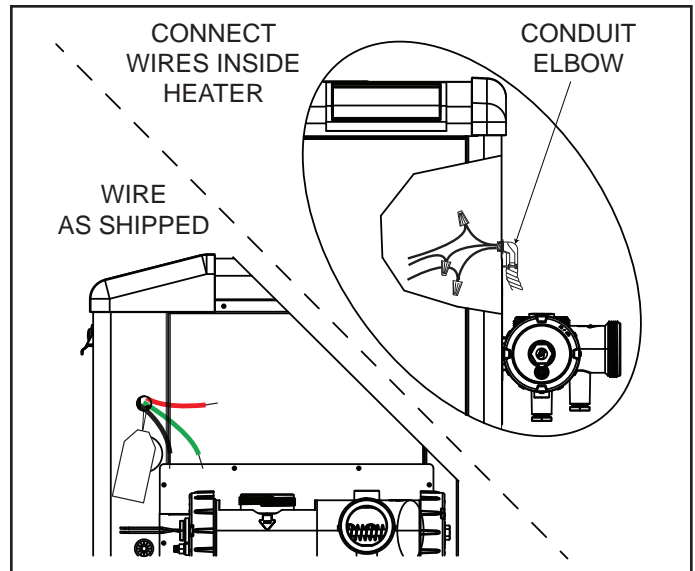

Figure 21. Field Wiring Connections
2. Connect the wires from the power source to the leads on the right side of the heater in the space behind the raceway. See Figure 21.